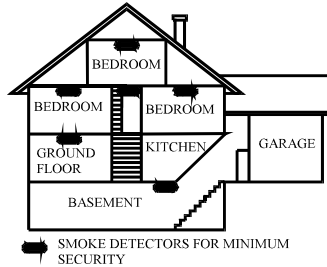

Figure 2: Installation locations for smoke & heat detectors in multiple- floor apartments or homes
- Install a smoke & heat detector on every floor in a multi-floor home (*see Figure 2*).